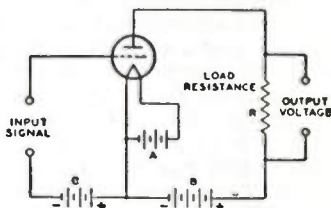

Fig. 14
The plate current flowing through the load resistance (R) of Fig. 14 causes a voltage drop which varies directly with the plate current. The ratio of this voltage variation produced in the load resistance to the input signal voltage is the voltage amplification, or gain, provided by the tube. The voltage amplification due to the tube is expressed by the following convenient formulas: